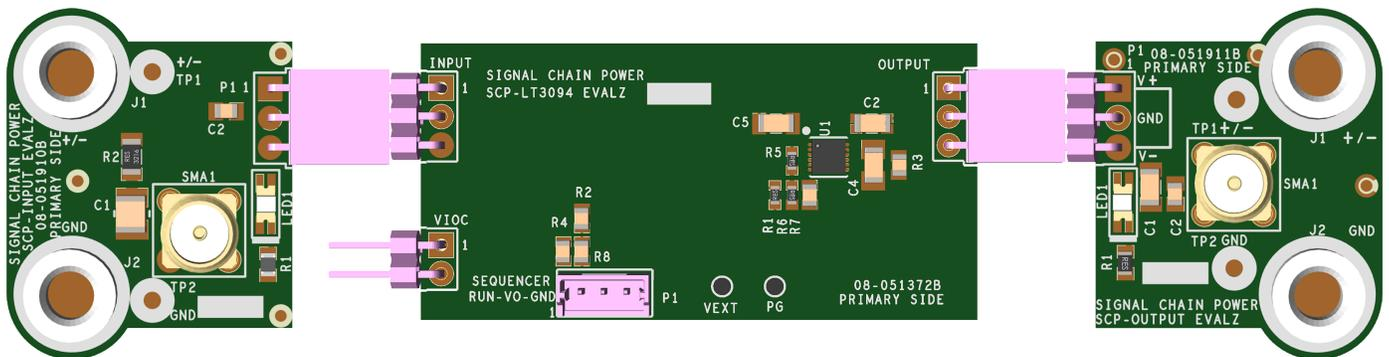

Figure 2. Proper Measurement Equipment Setup (Use SMA connectors for Measuring Input or Output Ripple)
2. Connect the SCP-INPUT-EVALZ and SCP-OUTPUT-EVALZ boards to the SCP-LT3094-EVALZ (refer to Figure 2) and connect the input board to a voltage source, V_{SOURCE} . Connect the output board to a voltmeter or dynamic load. Slowly raise the input voltage until the SCP-LT3094-EVALZ powers up into regulation and sweep V_{SOURCE} through the desired range of operation.